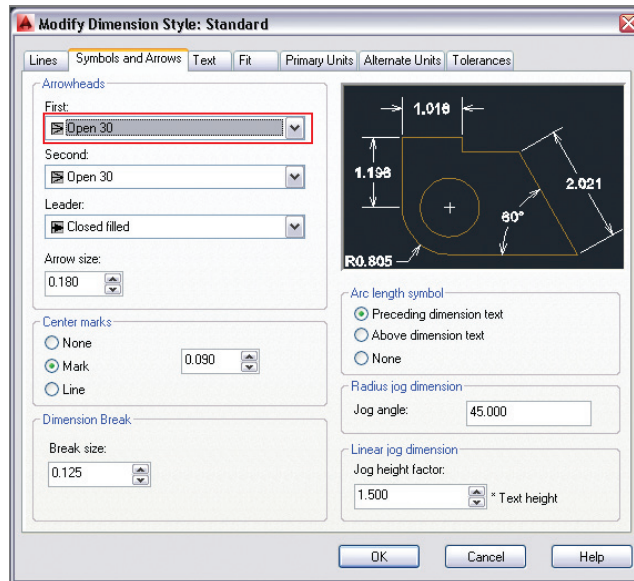

FIGURE 11.5 Changing arrowheads in the Standard dimension style
5. Select the Symbols And Arrows tab. In the Arrowheads section, choose Open 30 from the First drop-down (see Figure 11.5). The Second drop-down automatically matches the first by default, so it now says Open 30 as well.